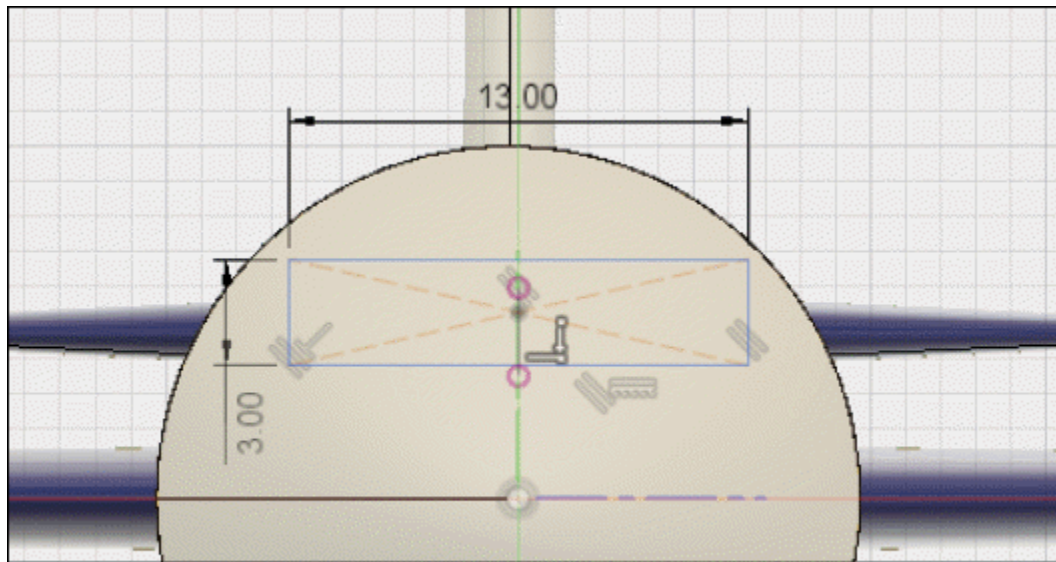

Figure-64. Sketch for windshield
- Create a rectangle on the selected plane as shown in Figure-64.